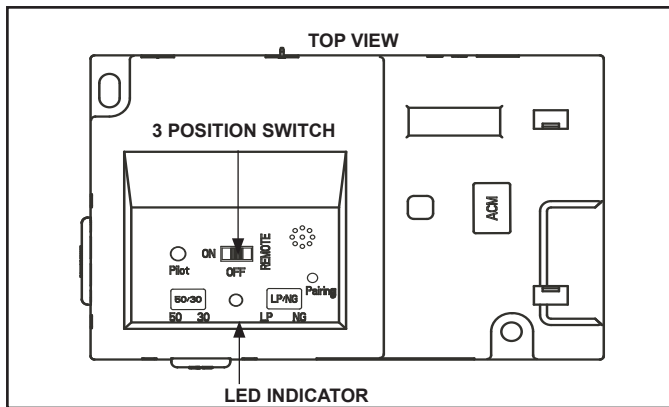

Figure 3.6 IFT-ECM
- Locate reset switch inside the appliance. See Figure 3.6. Hold reset switch down for one second and release. A “beep” will signal module is reset.